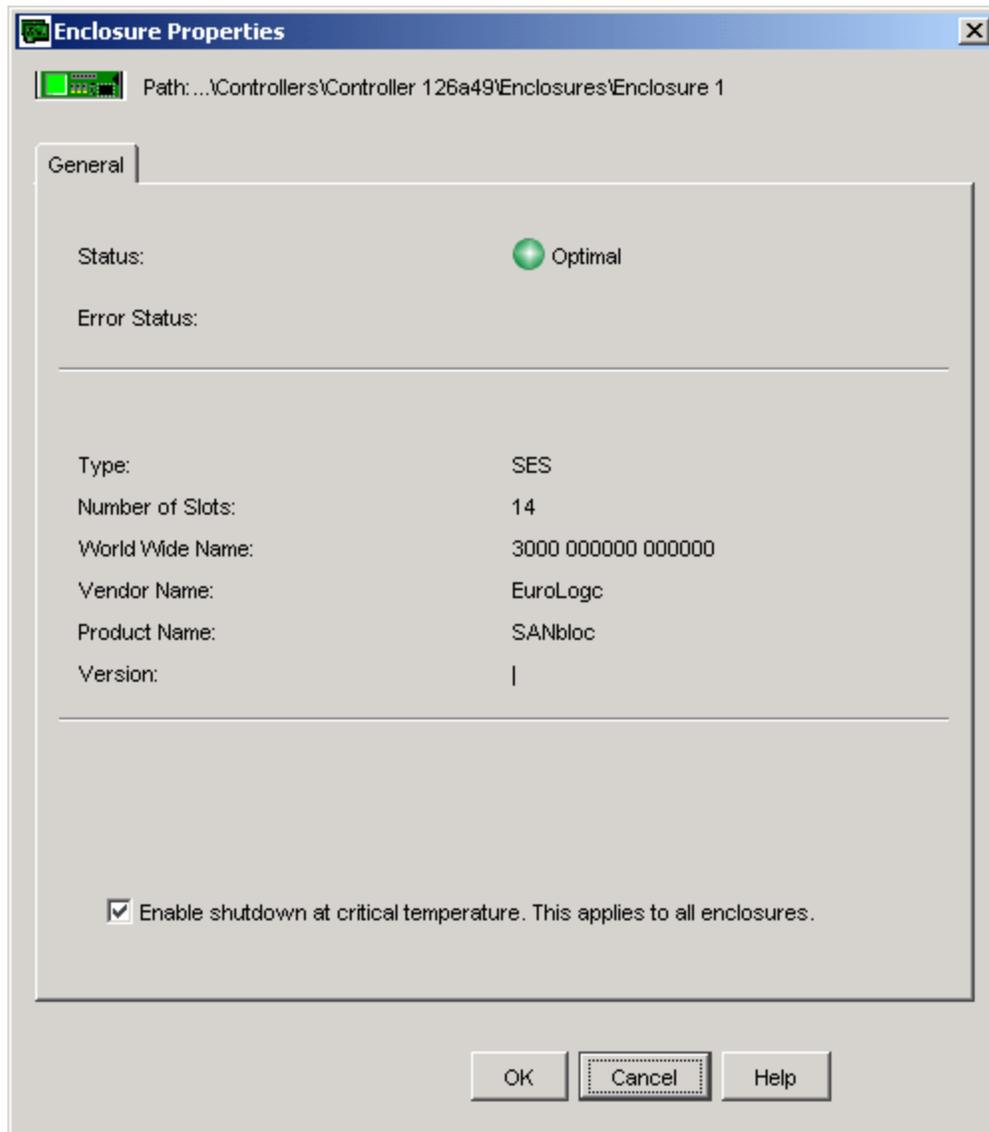

Figure 94 Viewing Enclosure Properties
- The Enclosure Properties dialog box opens and displays Figure 94 Viewing Enclosure Properties.